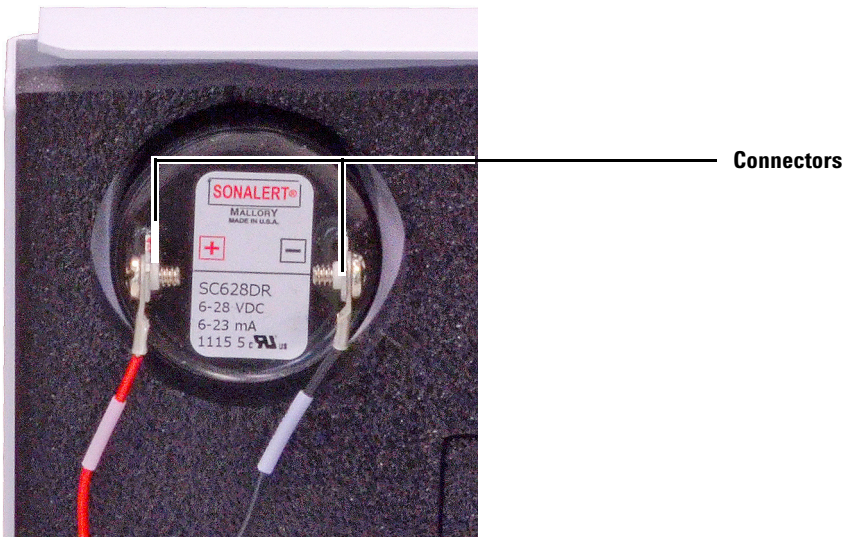

Figure 10 Inside view of the alarm (G6011A shown.)
- 2 Remove the wires (marked **ALRM +** and **ALRM -**) from the alarm (see Figure 10).